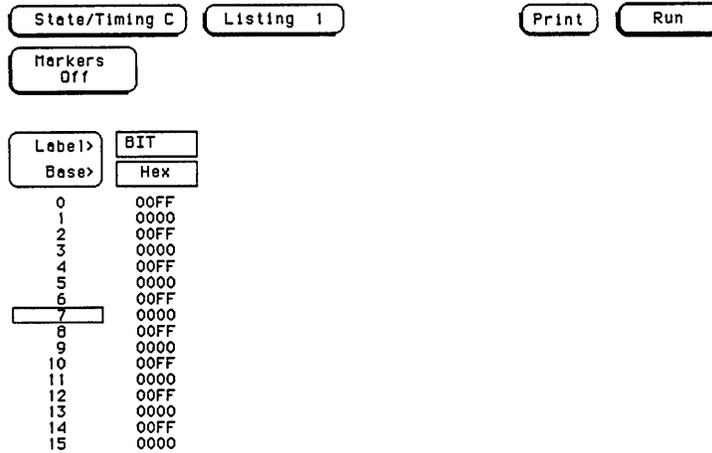

Figure 3-31. Listing Screen
6. Touch Run. The Listing screen will be displayed as in figure 3-31.